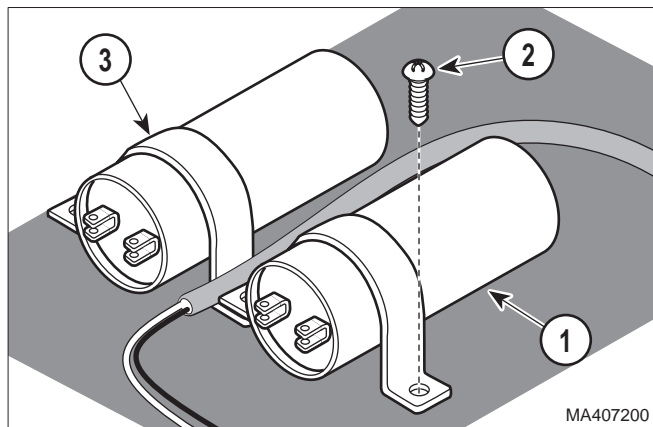

Figure 4-15. Capacitor Removal / Installation
- (1) Access the upper wrap components (Refer to Para 4-8).
- (2) Place location tags on the electrical leads of the capacitor(s) (1, Fig. 4-15) and remove the leads from the capacitor(s).
- (3) Loosen the mounting screws (2) on the capacitor clamp(s) (3) and slide the capacitor(s) (1) out of the clamp(s).
- (1) Position the capacitor(s) (1, Fig. 4-15) in place beneath the capacitor clamp(s) (3) and tighten the clamp mounting screws (2).
- (2) Using the location tags, previously place on the electrical leads, connect the electrical leads to the capacitor(s) (1). If necessary, refer to Wiring Diagrams para 5.1.